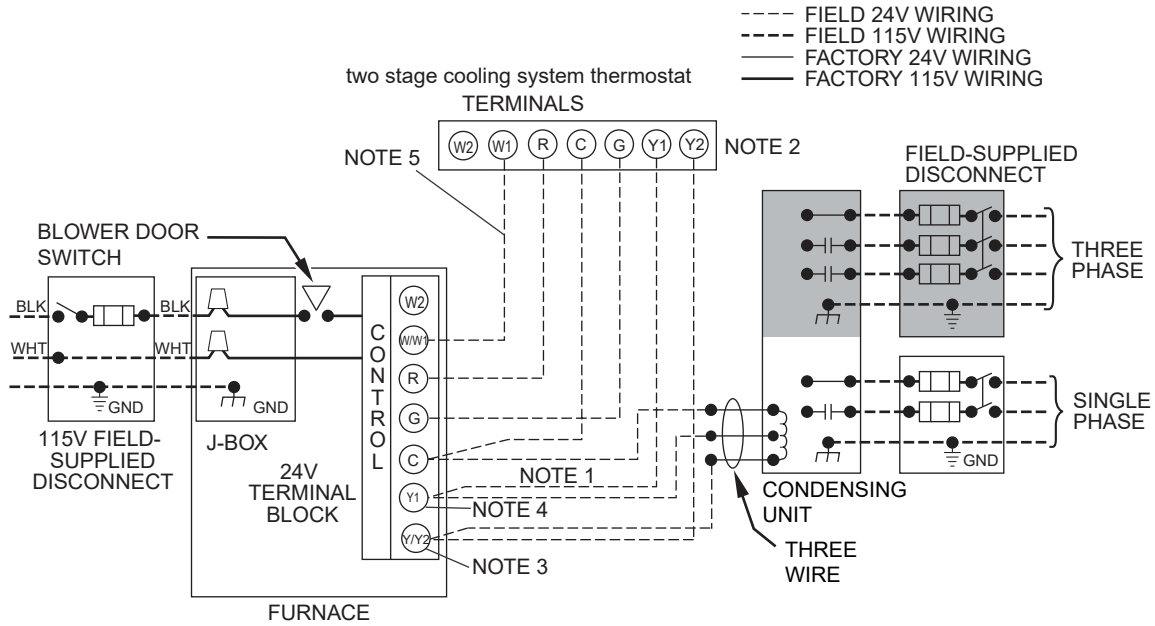

Fig.9-3 Heating and Cooling Application Wiring Diagram with I-Stage Thermostat
12. Complete electrical box wiring and installation. Connect line voltage leads as shown in Fig. 9-3. Use best practices (NEC in U.S. and CSA C22.1 in Canada) for wire bushings, strain relief, etc.
5. Connect line voltage leads as shown in Fig. 9-3.
1. Maintain 115V wiring and ground. Improper polarity will result in rapid flashing LED and no furnace operation. (See Fig. 9-3)
2. Make thermostat wire connections at the 24-V terminal block on the furnace control. Failure to make proper connections will result in improper operation. (See Fig. 9-3.)
(See Fig. 9-3 for thermostat connections.) The wall thermostat "calls for heat," closing the R--to--W1circuit.The furnace control performs a self--check, verifies the pressure switch contacts PRS are open, and starts the inducer motor IDM.